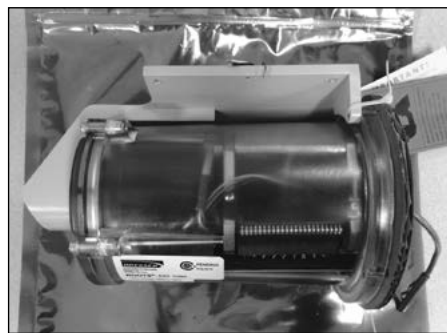

Figure 10.15 - ES3 removed from static bag
- B. Remove the ES3 Electronic TC from the static bag, as shown in Figure 10.15.